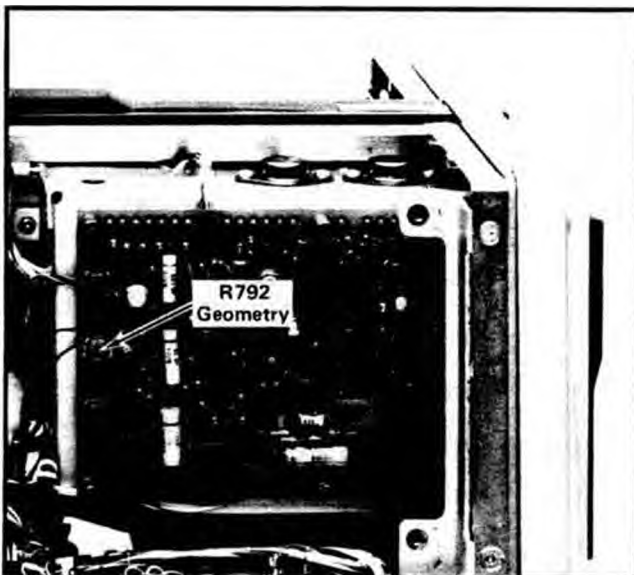

Fig. 5-17. Location of Geometry adjustment R792.
g. ADJUST—Geometry adjustment R792 (see Fig. 5-17) for no more than 0.1 division of tilt or bowing of time markers anywhere in the graticule area.